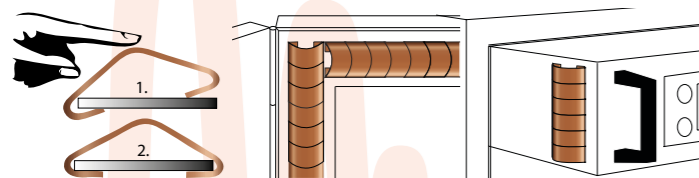

Figure 98 : Snap-on fingerstrips for slot mounting and large compression
- 98 When there is a wide range of compression required**, our 2200 series Snap-on Fingerstrips or our 2300 series Stick-on fingerstrips may be suitable. These fingerstrips with self-adhesive can be integrated in the construction. Snap-on Fingerstrips can be firmly mounted in slots in your construction so that also a compression to nearly 0.25 can be realized. (Fig. 98)